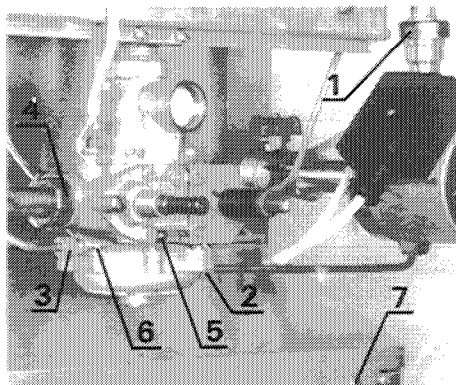

Fig. 22
- d) Unscrew pump union (1, fig. 22) at return outlet.
- c) Unscrew unions to high (2, fig. 22) and low (3, fig. 22) pressure tubes using a 13 mm spanner.
- d) Unscrew gas union nut (4, fig. 22), using a 30 mm spanner.
- f) Slacken two retaining grub screws (5, fig. 22) gas section to water section and separate components noting position of high and low pressure unions.
- g) Remove 8 screws (6, fig. 22) holding water section halves together.
- n) Re-assemble two halves and tighten the eight screws (6, fig. 22) evenly.
- o) Reposition the water section in gas section and tighten the grub screws (5, fig. 22) noting high pressure port, lower water section facing to right.
- g) Unscrew pump union (1, fig. 22).